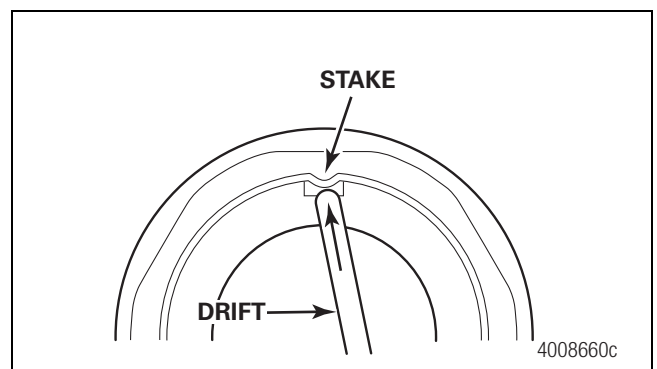

Figure 5.9
3. Remove the wheel bearing nut. Use a drift to remove the staking points before removing the nut. Figure 5.9.